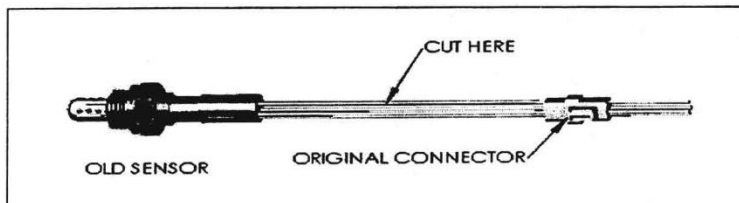

FIG. 1
2. CUT ORIGINAL SENSOR WIRES NEAR REMOVED SENSOR AS CLOSE AS POSSIBLE (SEE FIG. 1)